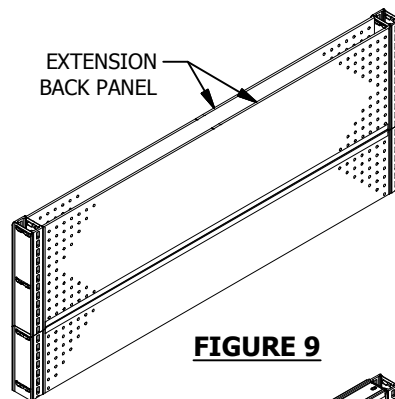

FIGURE 9
STEP 9. INSTALL SECOND EXTENSION BACK PANEL (BE____). **(FIGURE 9)**